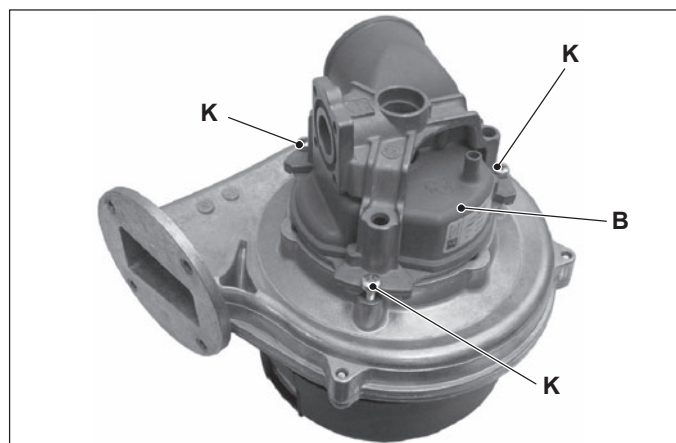

Figure 17.3
- 11 Remove the screws K and the air box B (Figure 17.3).